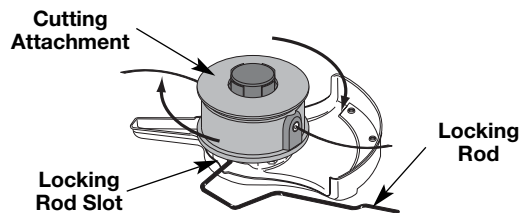

Fig. 10
3. While holding the locking rod, remove the cutting attachment by turning it clockwise off of the output shaft (Fig. 10). Store the cutting attachment for future use.